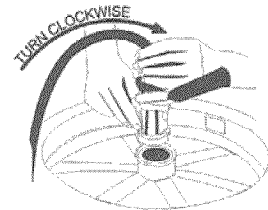

fig.1
1. Make sure the black handle of the keg coupler is in the closed (up) position before installing it on the beer keg. Insert the keg coupler into the locking neck of the beer keg and turn clockwise ¼-turn to lock it into position. (see fig. 1)